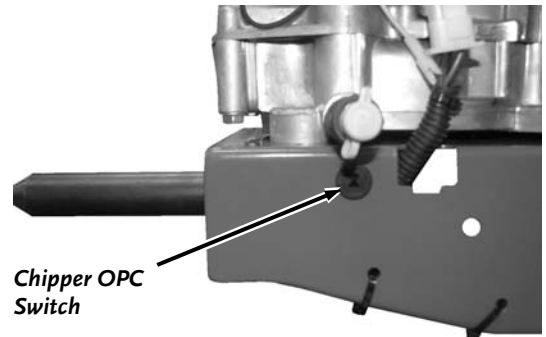

Figure 10
4. Snap the Chipper OPC Switch into the DR Field and Brush Mower Frame (Figure 10)